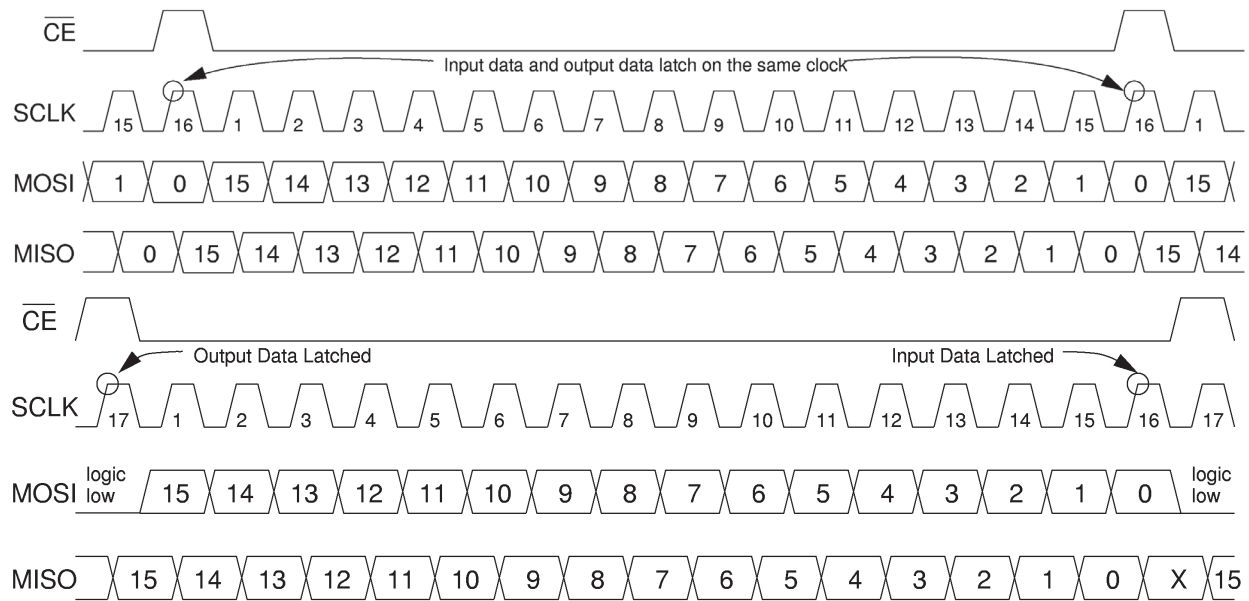

Figure 4. Serial Interface Timing
22. See Figure 4. Serial Interface Timing, page 16.